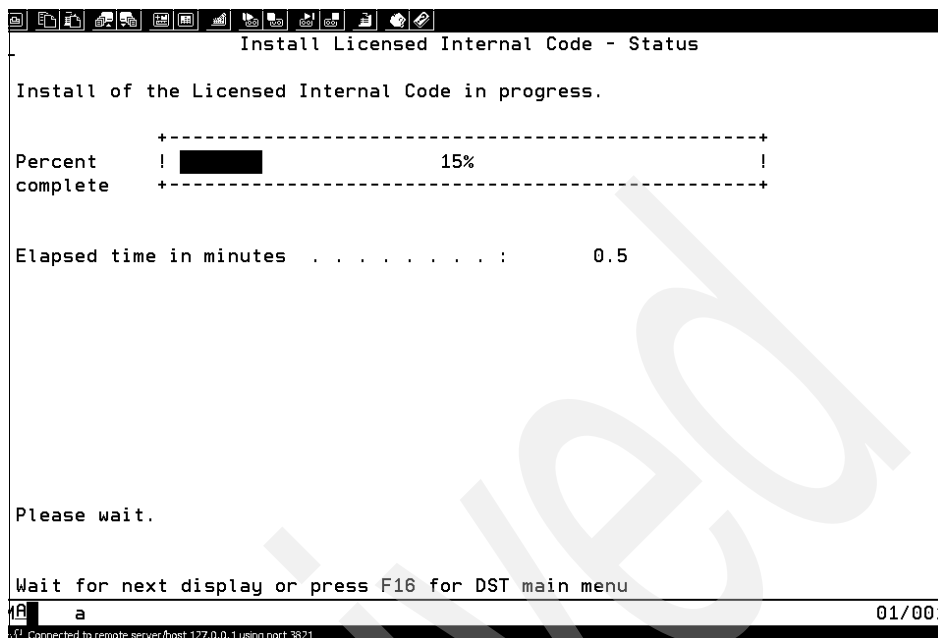

Figure 7-56 Install LIC status
11. Next, the Install Licensed Internal Code status display appears on the console as shown in Figure 7-56 on page 294. It remains on the console for approximately 30 minutes.